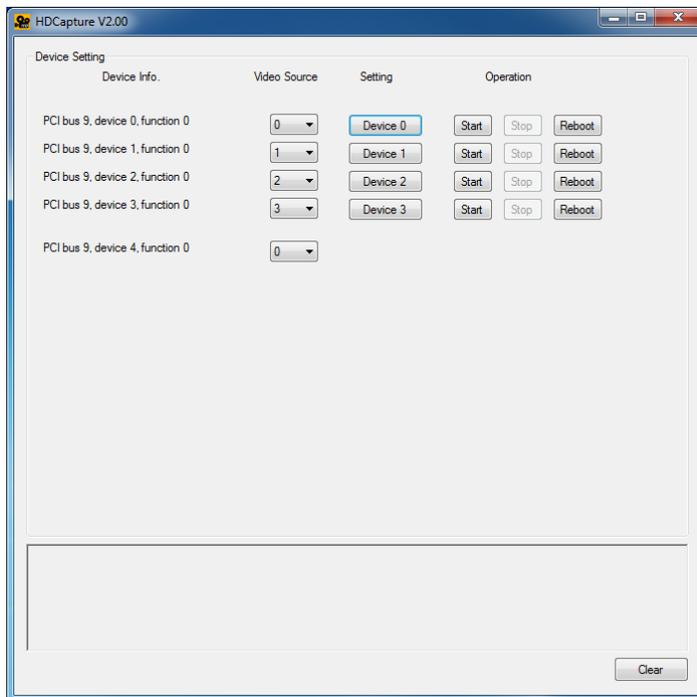

Figure 2-1: HDCapture SDK
Step 1: Launch the HDCapture SDK. The Device Setting on the right side panel of the HDCapture SDK is varied based on the installed video capture card as shown in **Figure 2-1**. The best resolution to view HDCapture SDK is 1280 x 1024 or above.